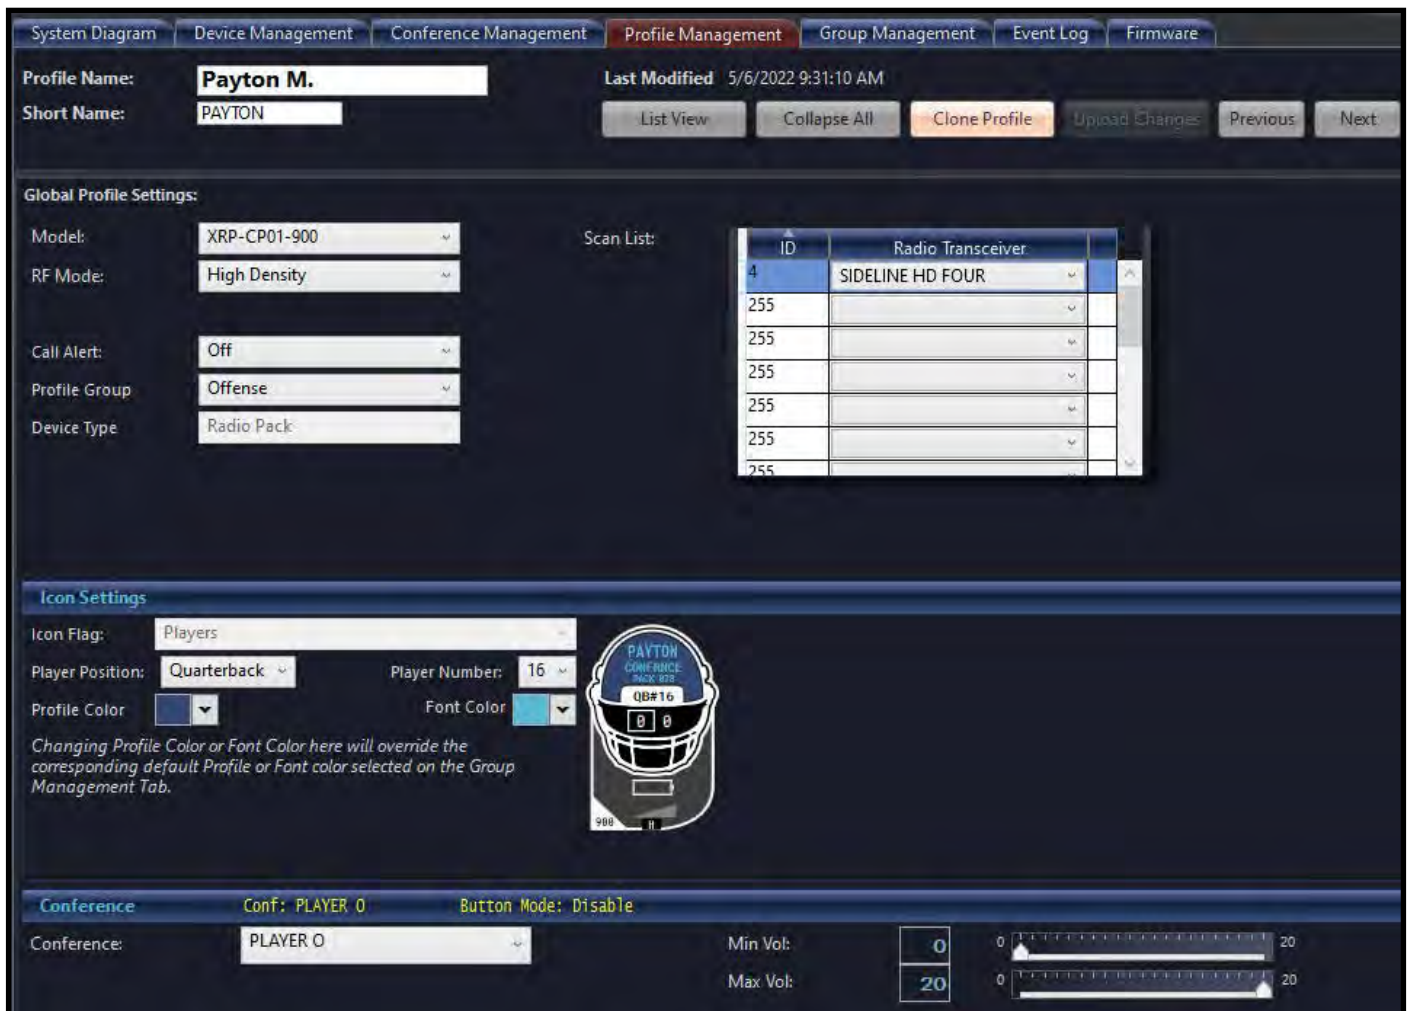

Figure 146: X-System Player Profile Example
3. Customize the Player Position and Number in the Icon Settings. See Figure 146 for an example of an X-System Player Profile.